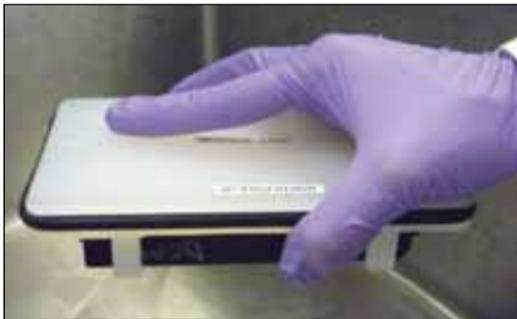

Fig. 4. Inverting the plate.
- 2.3 Hold the magnet platform firmly. Invert and flick the magnet over a sink (or suitable absorbent pad) to empty the liquid from the wells (Figure 4).